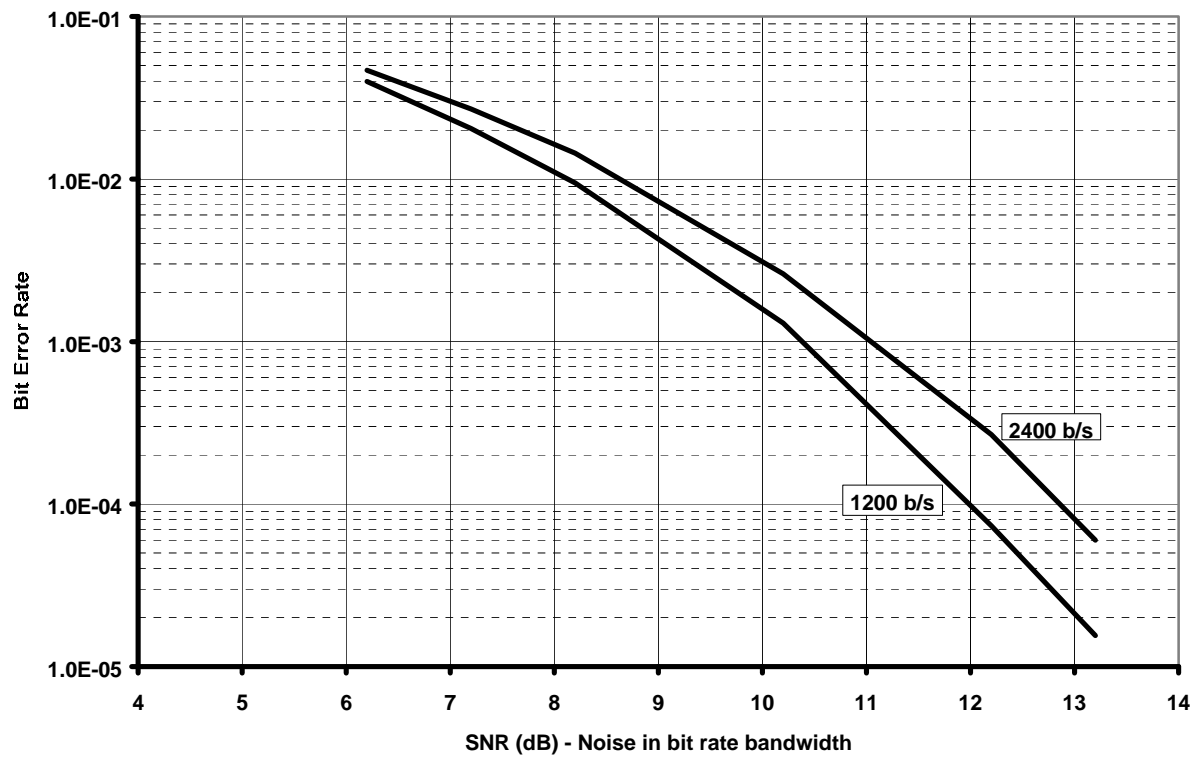

Figure 15 Typical FFSK/MSK Bit Error Rate Graph
54	V _{DD} (A) = 3.0V, for a "101010101 ... 01" pattern measured at the input amplifier feedback pin (12). Signal level scales with V _{DD} (A). See Figure 15 for variation of BER with SNR.